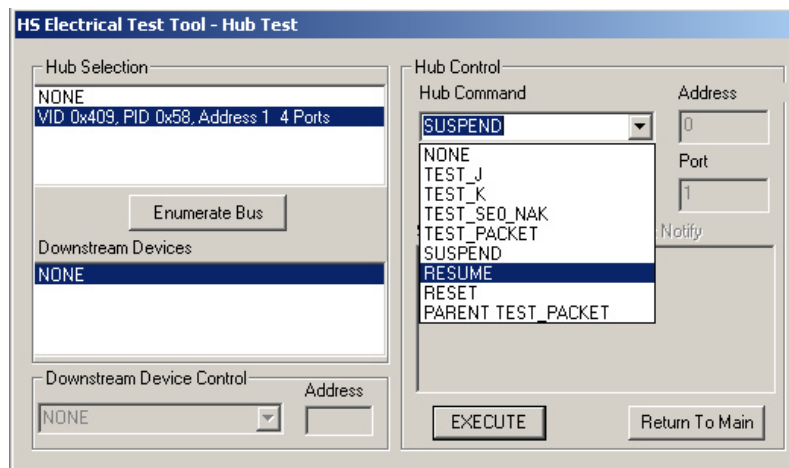

Figure 46. Hub Resume
9. On the HS Electrical Test Tool – Hub Test menu, select RESUME from the Hub Command drop down menu. (Figure 46)